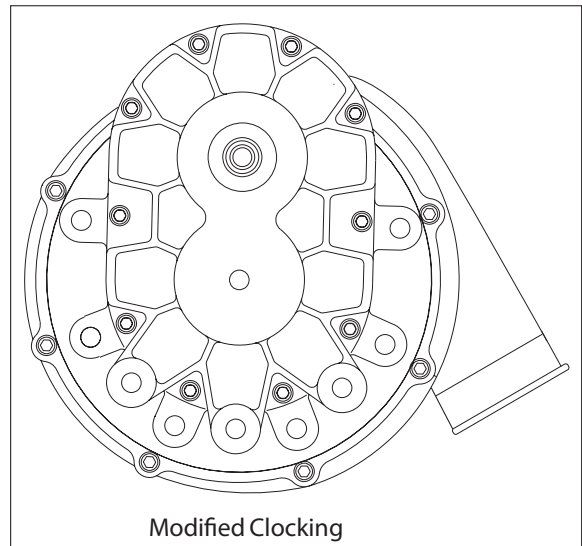

Fig. 2-a (applies to both H.O. and V-Power)
- F.** Remove the 3.5" plastic idler retainer and washer. Carefully reposition the idler and its two spacers to the lower mounting hole just below its current position. Reinstall the retainer previously removed and tighten. (See Fig. 2-c.)